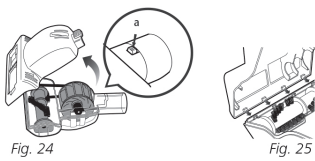

Fig. 24
- 1 Slide the locking latch (a) forward and gently tilt brush housing upward to remove. (Fig. 24)